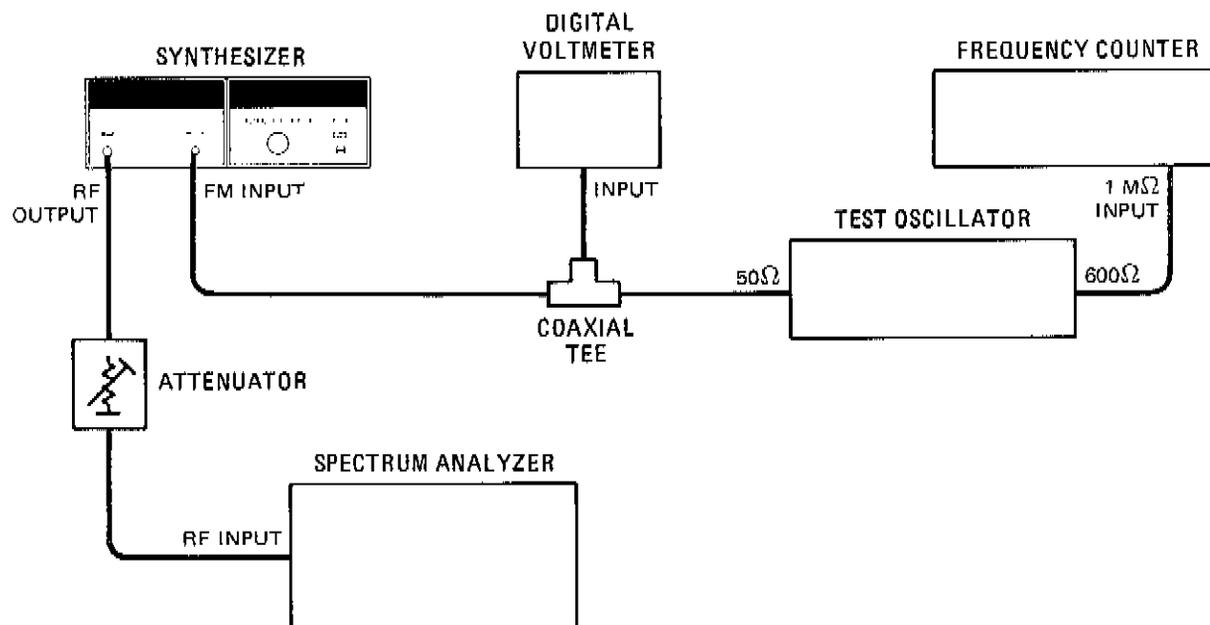

Figure 4-6. FM Frequency Response Test Setup
1. Connect the equipment as shown in Figure 4-6; set the Attenuator to 10 dB.